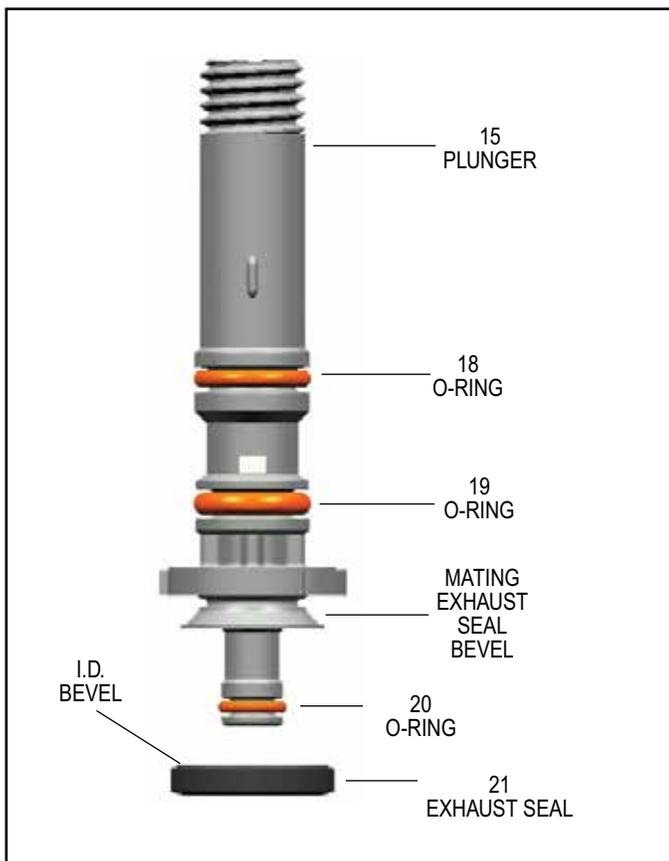

FIGURE 7 - PLUNGER AND EXHAUST SEAL
1. Install o-rings (18,19 & 20) and the exhaust seal (21) onto the stem of the plungers (15).
**CAUTION:** The exhaust seal (21) must be installed so that its beveled surface mates with the beveled surface of the plunger (Figure 7).
2. Install the o-ring (16) onto the guide spool (14). Install the guide spool assembly over the threaded end of the plunger (15) and press down firmly until it contacts the plunger flange.